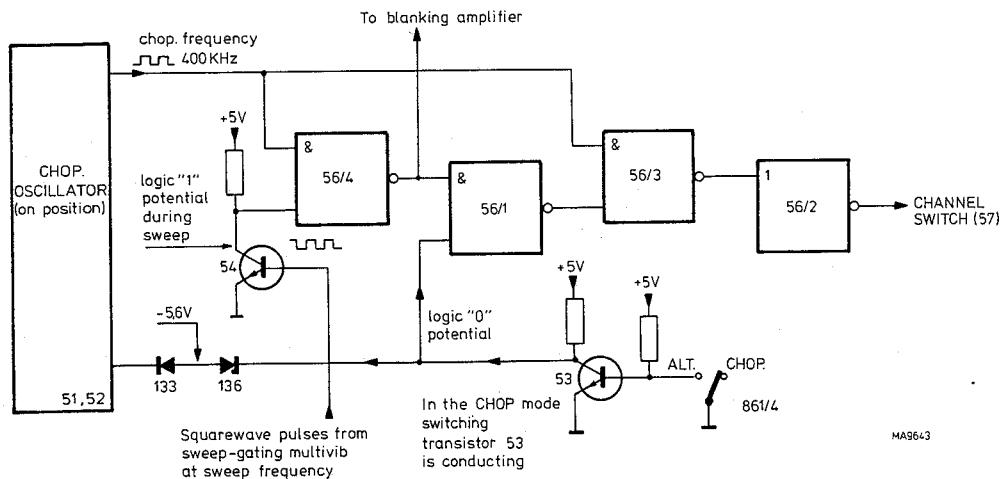

Fig. 3.6. Vertical channel switching – CHOP mode
- The CHOP pushbutton 861/4 disconnects the earth from the base of switching transistor 53, which then conducts. The collector voltage drops from 5 V to 0 V and, consequently, because of the zener diode voltage, the anode of diode 133 drops from -0.6 V to -5.6 V and switches on the CHOP oscillator 51, 52. The square wave voltage at the output of the CHOP oscillator (collector of transistor 52) operates the NAND gates to produce 400 kHz clock pulses for the channel switching flip-flop 57 (see Fig. 3.6.).